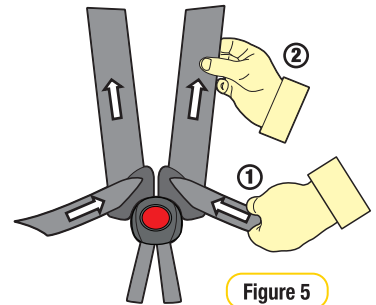

Figure 5
Step 5: Remove all of the slack for the harness lap straps by pulling shoulder straps (refer Figure 5), then pull the harness adjustment strap to adjust harness to a comfortable but firm fit (refer to Figure 5 & 6).